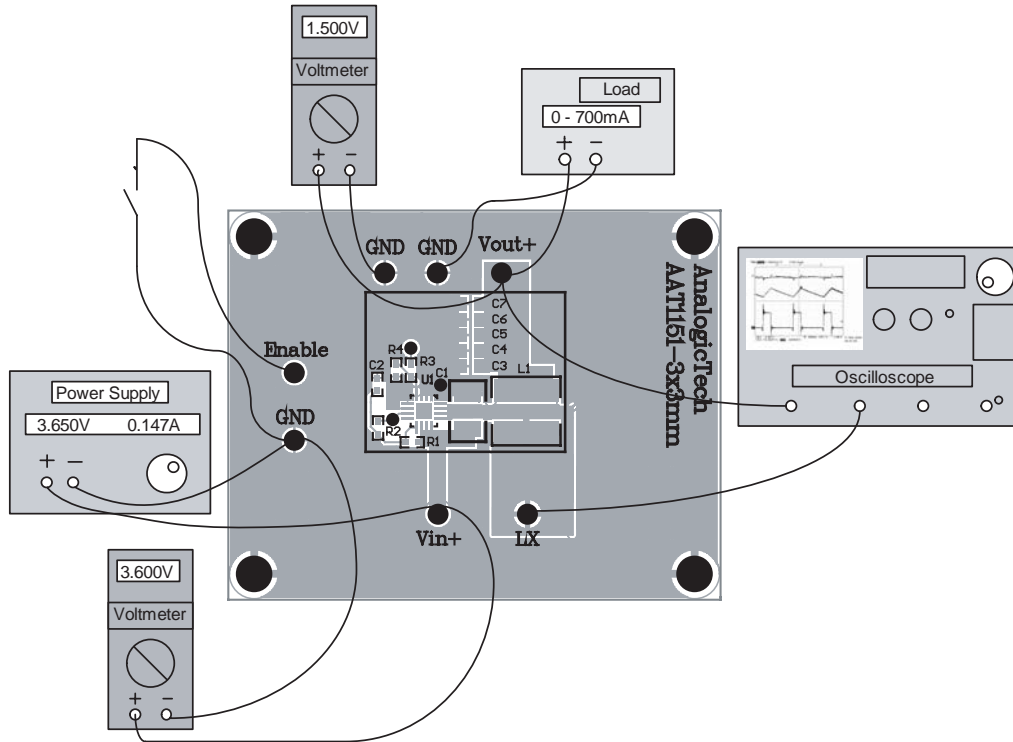

Figure 4: AAT1151 QFN Connection Diagram.
A. Load and Line Regulation (see connection diagram in Figure 4)